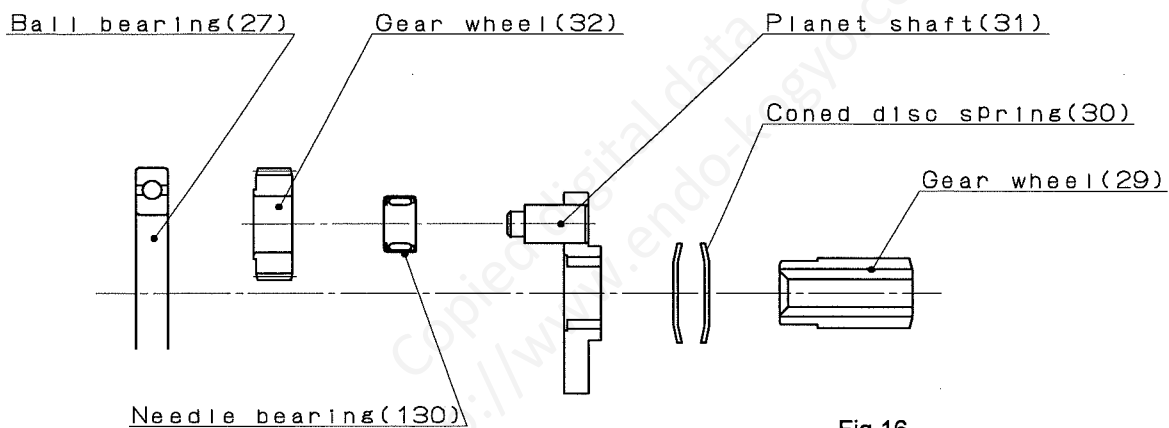

Fig.16
- ⑤ Fix Bushing(23) and Gear wheels(24) to Planet shaft(22), and install them in Casing(1).
- ⑥ Install Ball bearing(27), and lubricate the gear portion with grease.
- ⑦ Install Gear wheel(29), Coned disc springs(30), Internal gear(28), Planet shaft(31), Gear wheels(32) and Ball bearing(27) in this order.
See Fig. 16 for the setting direction of Coned disc springs(30) and Gear wheels(32).